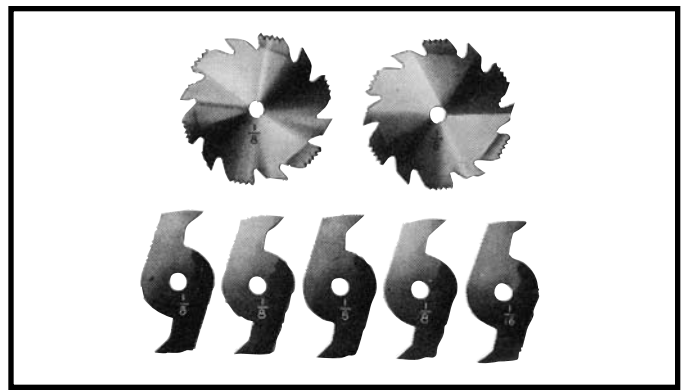
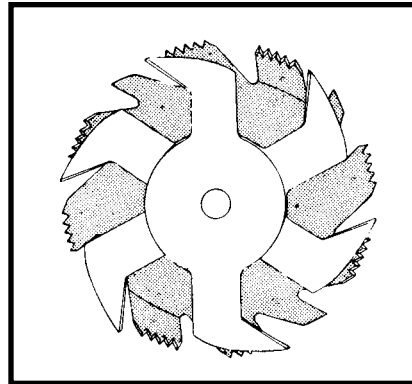
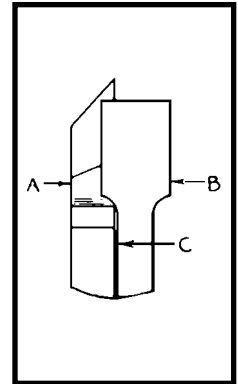

Fig. 68
Fig. 69
Fig. 70
Dadoing is cutting a rabbet or wide groove into the work. Most dado head sets are made up of two outside saws and four or five inside cutters, as shown in Fig. 68. Various combinations of saws and cutters are used to cut grooves from 1/8" to 13/16" wide for use in shelving, making joints, tenoning, grooving, etc. The cutters are heavily swaged and must be arranged so that this heavy portion falls in the gullets of the outside saws, as shown in Fig. 69. The saw and cutter overlap is shown in Fig. 70, (A) being the outside saw, (B) an inside cutter, and (C) a paper washer or washers which can be used as needed to control the exact width of groove. A 1/4" groove is cut by using the two outside saws. The teeth of the saws should be positioned so that the raker on one saw is beside the cutting teeth on the other saw.